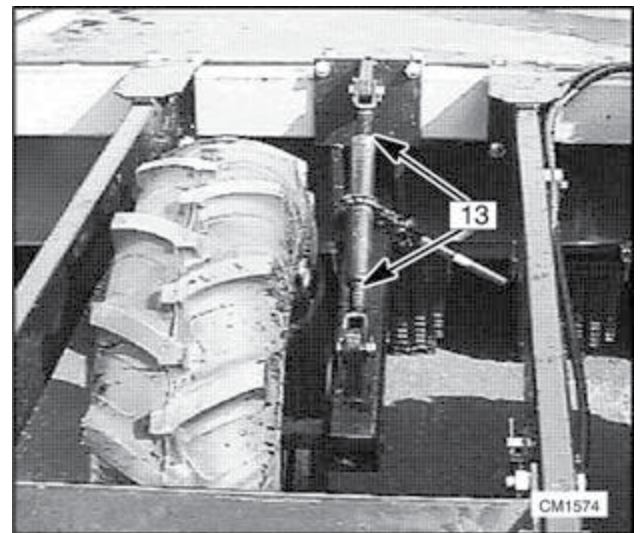

Figure 32. Gauge Wheel Jack Screws
13. Grease gauge wheel jack screws (Figure 32).